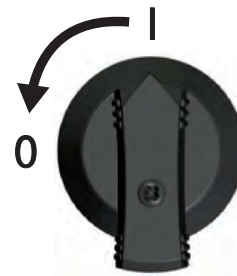

Figure 46
2. Set the DC circuit breaker on the inverter to position 0 (Figure 46).